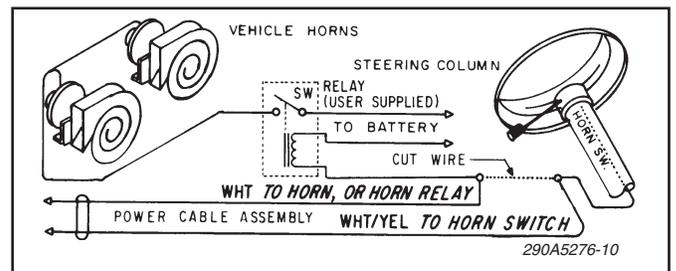

Figure 3-9.
b. See figure 3-9. Splice the white/yellow power cable wire to the horn ring side of the wire that was cut in step a. Insulate the splice with the wire nuts (supplied).
d. Obtain a SPST relay of sufficient contact current capacity to activate the vehicle horn. Refer to figure 3-9 while performing the following steps.